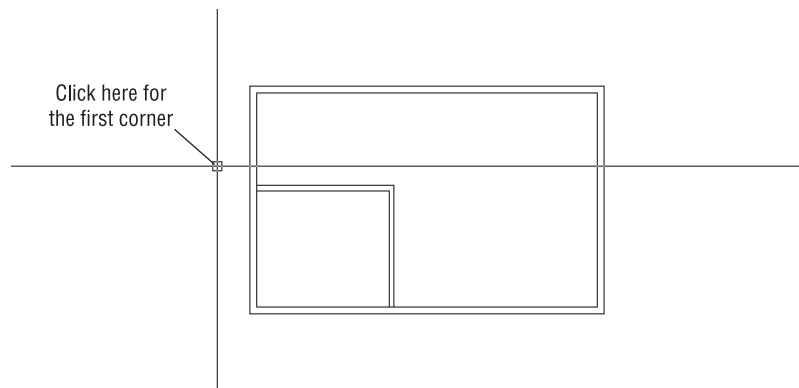

FIGURE 4.13: Positioning the cursor for the first click of the Zoom command
1. Type `z`. Then move the crosshair cursor to a point slightly above and to the left of the upper T intersection (see Figure 4.13), and click in a blank area outside the floor plan.